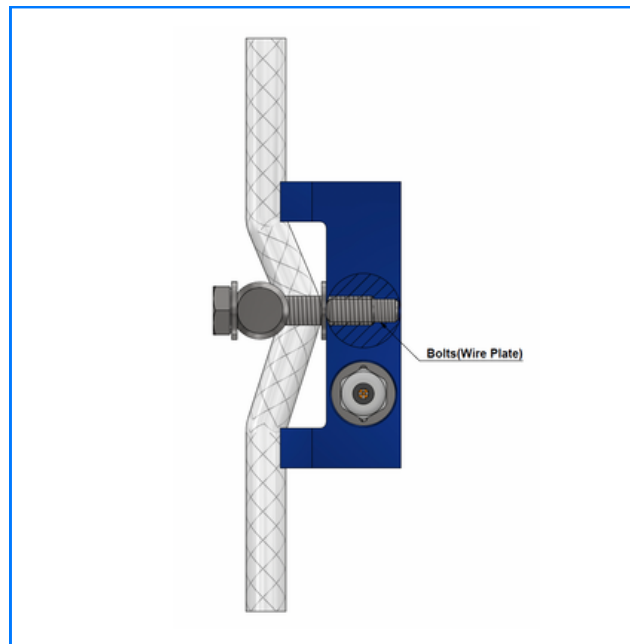

Figure 3
3. Tighten the Bolts (Wire Plate) until the Wire Plate has a firm grip on the steel wire, as illustrated in figure 3